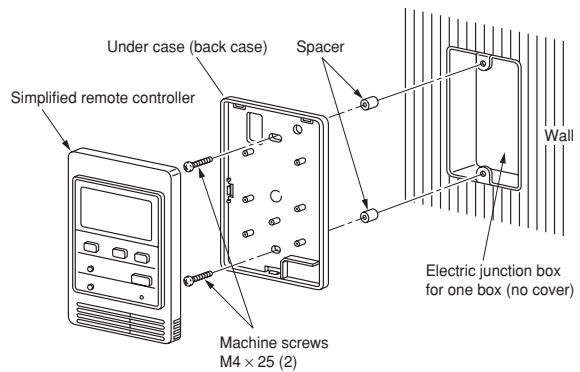

Fig. 3-51
- Use an electric junction box (supplied locally) (Fig. 3-51) for flush mounting of the simplified remote controller.